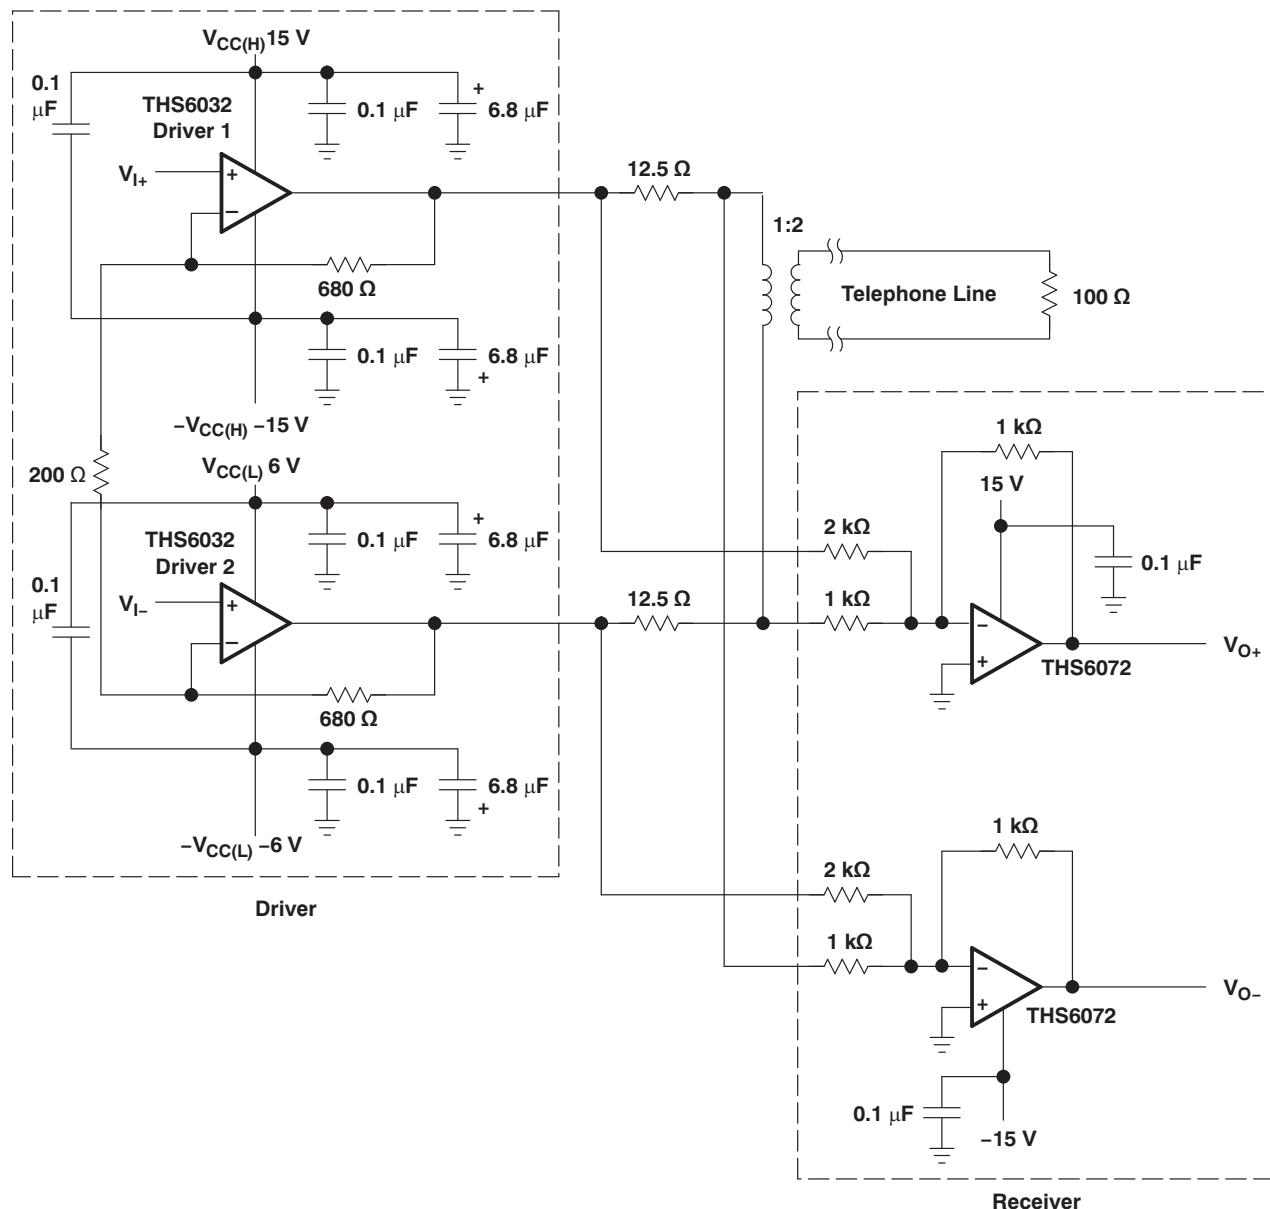

Figure 36. THS6032 ADSL Application
The THS6032 was primarily designed as a low-power line driver for ADSL (asymmetrical digital subscriber line). The driver output stage has been sized to provide full ADSL power levels of 20 dBm onto the telephone lines. Although actual driver output peak voltages and currents vary with each particular ADSL application, the THS6032 is specified for a minimum full output current of 400 mA at its full output voltage of approximately 11 V. This performance meets the demanding needs of ADSL at the central office end of the telephone line. A typical ADSL schematic is shown in Figure 36.
- Differential power supply decoupling – The THS6032 was designed to drive low-impedance differential signals. The 25-Ω load that each amplifier drives causes large amounts of current to flow from amplifier to amplifier. Power-supply decoupling for differential-currents must be provided to ensure low distortion in the THS6032. By simply connecting a 0.1-μF ceramic capacitor from the +V_{CC(H)} pin to the –V_{CC(H)} pin, along with another 0.1-μF ceramic capacitor from the +V_{CC(L)} pin to the –V_{CC(L)} pin, differential current loops will be minimized (see Figure 36). This will help keep the THS6032 operating at peak performance.
The THS6032 incorporates a shutdown circuit to conserve power. Traditionally, when an amplifier is placed into shutdown mode, the input and output circuitry are turned off. This conserves a large amount of power, but the output impedance will be a very high, typically greater than several k Ω . This situation does not maintain proper line termination, resulting in a severe reduction of the receive signal coming through the transmission line (see Figure 36).